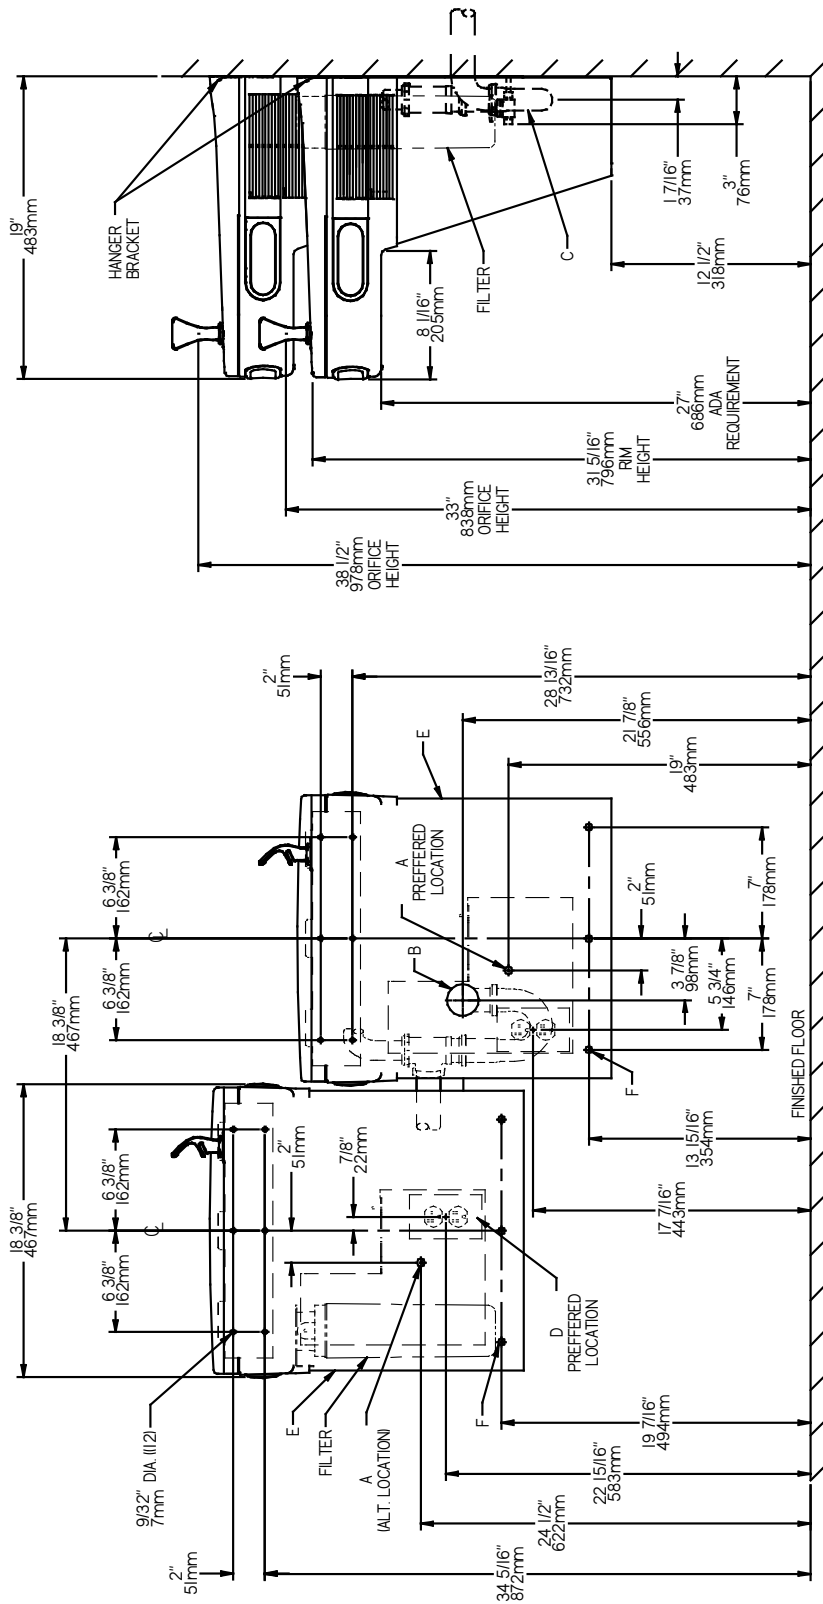

FIG. 2
- 1) Remove hanger brackets fastened to back of cooler by removing one (1) screw.
- 2) Mount the hanger bracket as shown in Figure 2 or 3.
- 3) Hang the cooler on the hanger bracket. Be certain the hanger bracket is engaged properly in the slots on the cooler back as shown in Figure 2 or 3.
- 4) Remove the four (4) screws holding the lower front panel at the bottom of cooler. Remove the front panel by pulling straight down and set aside.